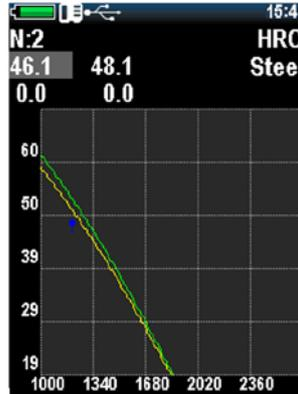

Figure 2.38 - After correcting the first sample
- Use  key to move to the next value, press  to save the first one. After the correction of the hardness value of the first sample the display will look like on Figure 2.38.